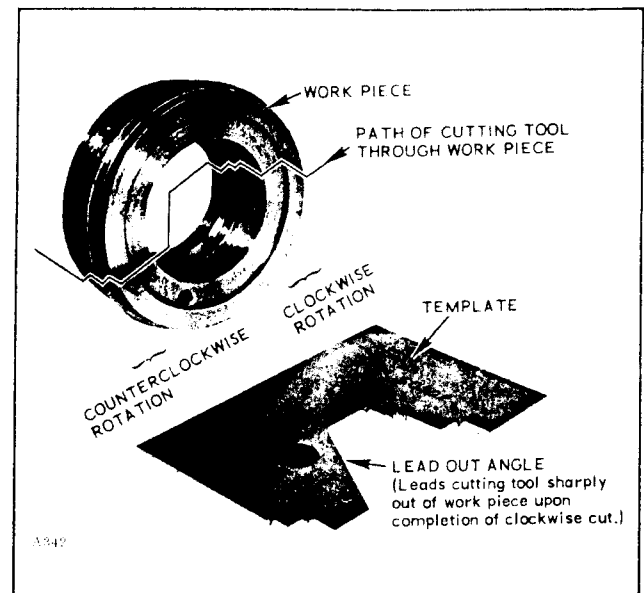

Figure 3-18. Typical Work Piece and Facing Template Used to Produce the Part
a. This technique may also be used to cut angles on the inside diameter and the outside diameter of a given work piece without the necessity of changing the tracer slide angle. A typical example is shown in figure 3-18.
b. In figure 3-18 note that the template is designed to allow the stylus to trace just beyond the centerline of the work piece. At this point, the template has been angled out sharply to guide the cutting tool out of the work piece. The outside diameter of the piece part is then cut by reversing the direction of rotation of the lathe spindle.